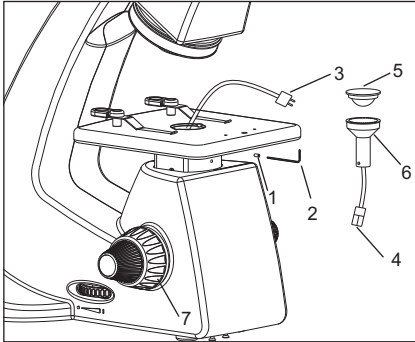

Fig. 8
1. Raise the stage to the highest position by rotating the coarse focus knob (7) clock wise. See figure 8.
2. Use allen key 3mm (2) to unlock the screw (1) from the stage to un-secure LED assembly.
3. Detach the LED assembly from connectors (3 & 4) by gently pulling them apart. Secure the lower part of the connector (3) with the stage clip to avoid it from slipping inside.